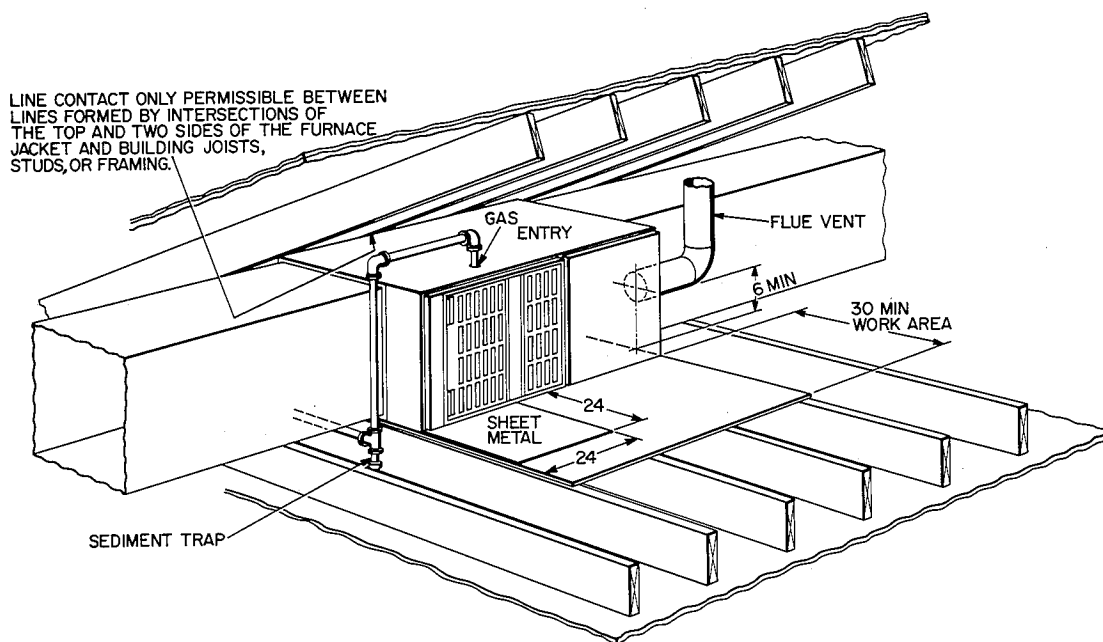

Fig. 7—Typical Attic Installation
The furnace can be installed horizontally on either the lefthand (LH) or righthand (RH) side. A typical attic installation is shown in Fig. 7.
1. Construct working platform on location where all required furnace clearances are obtainable. (See Table 1 and Fig. 7.)
2. Connect gas supply pipe; see Fig. 7 for typical piping entry.
- b. Install 24- x 24-in. sheet metal shield on platform in front of louvered control panel, as shown in Fig. 7.